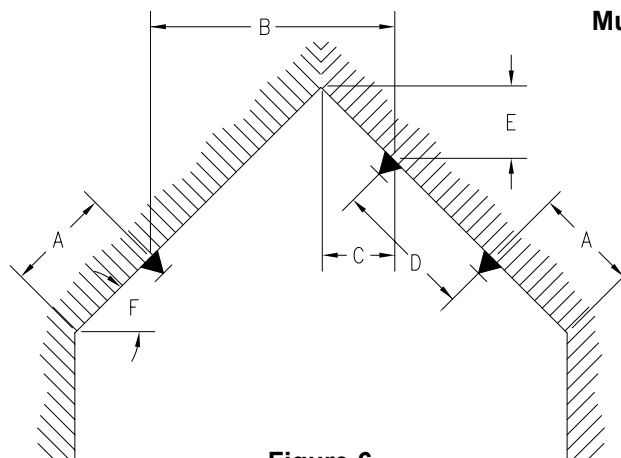

Figure 6
- (A) 0'-4" (0-102 mm) minimum, to one-half listed spacing, maximum.
- (B) One-half listed spacing, maximum, 8'-0" (2.4 m) minimum.
- (C) 0'-4" (0-102 mm) minimum.
- (D) Slopes greater than 8/12 pitch up to a 21/12 (33.7° up to a 60°) pitch.
- (E) 3'-0" (.91 m) maximum.
- (F) When dimension "F" exceeds 16' (4.9 m), utilize design configuration shown in Figure 6.